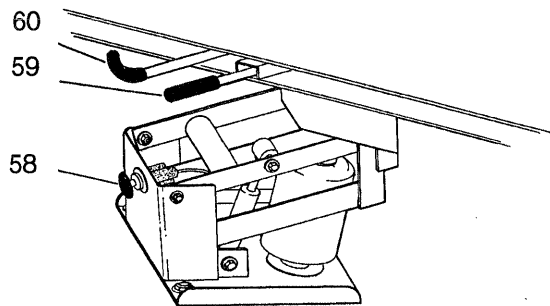

Fig. 3-16 Seat Adjustment Controls
58. Seat Height Adjustment Control See Fig. 3-16
See Fig. 3-16
60. Seat Swivel Release Lever See Fig. 3-16